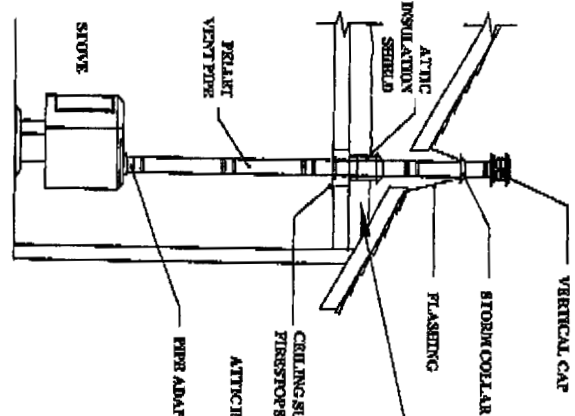

Fig 1.
2. If the vent exit is on top of the stove (Figure 1):
- F. When the Pellet Vent enters the Attic, install an Attic Insulation Shield around the vent (Figures 1 & 3). This will prevent insulation and debris from collecting near the vent pipe. Use (4) wood screws to secure the base of the Attic Insulation Shield to the framed opening. Adjust the height of the Attic Insulation Shield by sliding the top cylindrical shield over the one from the base. Insure that the top of the Shield is above the level of building insulation. Secure the Shield in place with at least two sheet metal screws through the side of the cylindrical shield. Attach collar around the top of the Attic Insulation shield.